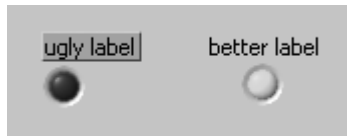

Figure 17.25
- Select the "transparent" option for object label boxes from the **Options...** command under the **Tools** menu. Labels generally look much better without their gray box, as shown in Figure 17.25.